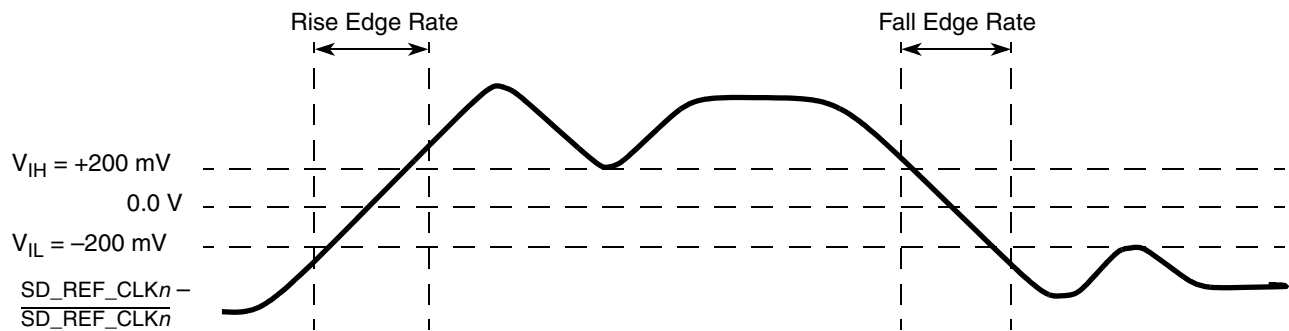

Figure 40. Differential measurement points for rise and fall time
waveform is not referenced to ground. See Figure 40, “Differential measurement points for rise and fall time,” as an example for differential waveform.
- Measured from −200 mV to +200 mV on the differential waveform (derived from SD_REF_CLK n minus $\overline{\text{SD\_REF\_CLK}}_n$). The signal must be monotonic through the measurement region for rise and fall time. The 400 mV measurement window is centered on the differential zero crossing. See Figure 40.